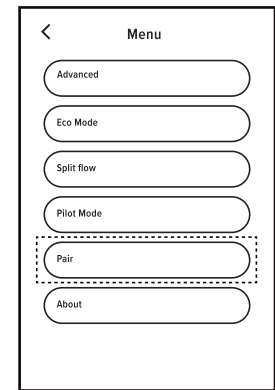

Fig. 2
2. Press the pair button (Fig.2).